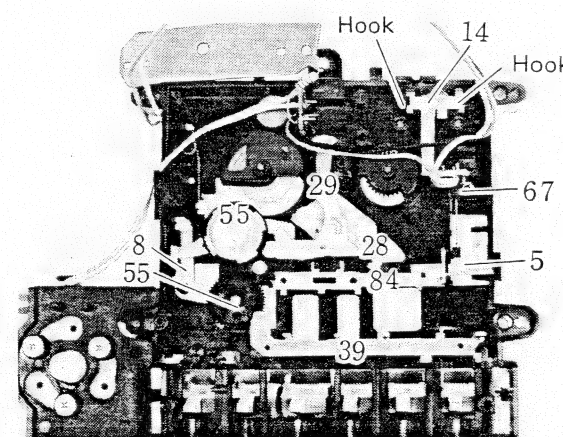

Figure 29.
8. Motor can be detached by turning screw fully clockwise without removing it. (Fig. 29)